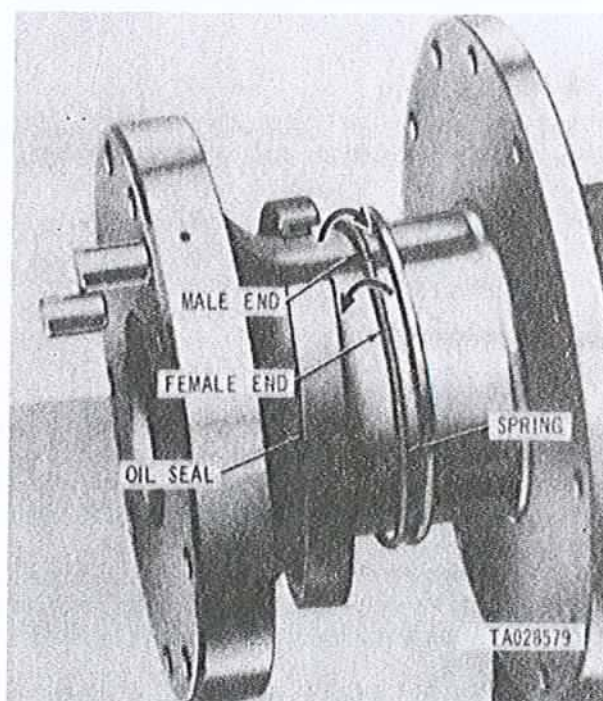

Figure 3-171. Removing or installing crankshaft oil seal.
b. Separate the retaining spring (fig. 3-171), from retaining lip of oil seal. Disengage the ends of the spring at its parting line with half turn as shown. Separate seal at split line and remove from the crankshaft. Discard seal and spring.